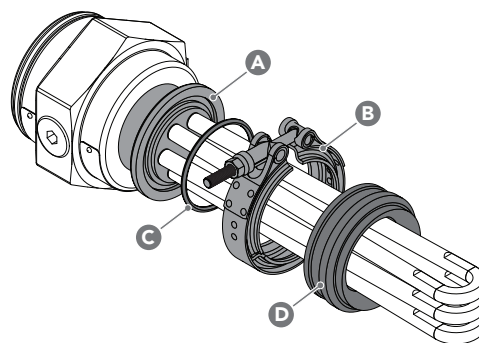

Figure 2. Industrial immersion threadless, V-clamp assembly components, showing element adapter (A), V-clamp (B), O-ring (C), and weldable adapter (D).
Figure 1. Typical Class I, Group D industrial immersion heater rated for use in hazardous locations, showing cover (A), element enclosure (B), element (C), threaded plug (D), and wiring entrance (E). Immersion heater may vary, see Fig. 2 for threadless, V-clamp style.
➤ For threadless, V-clamp models (See Fig. 2):